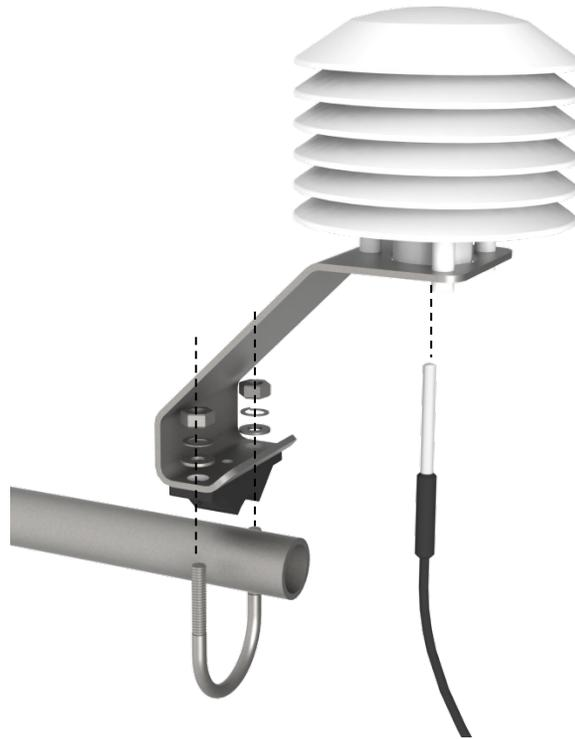

FIGURE 6-4. Mounting the IRGASON temperature probe
8. Mount the IRGASON temperature probe so that it measures temperature at the same height as the sample volume of the IRGASON. To do this, first attach the 6-plate solar radiation shield to the mast with the included u-bolt. Next, insert the end of the probe into the hole on the bottom of the shield. Tighten the screws to hold the probe in place, as shown in FIGURE 6-4. For more detailed information about the temperature probe installation and specifications, refer to the *Model 107 Temperature Probe* manual, which is available at [www.campbellsci.eu](http://www.campbellsci.eu).